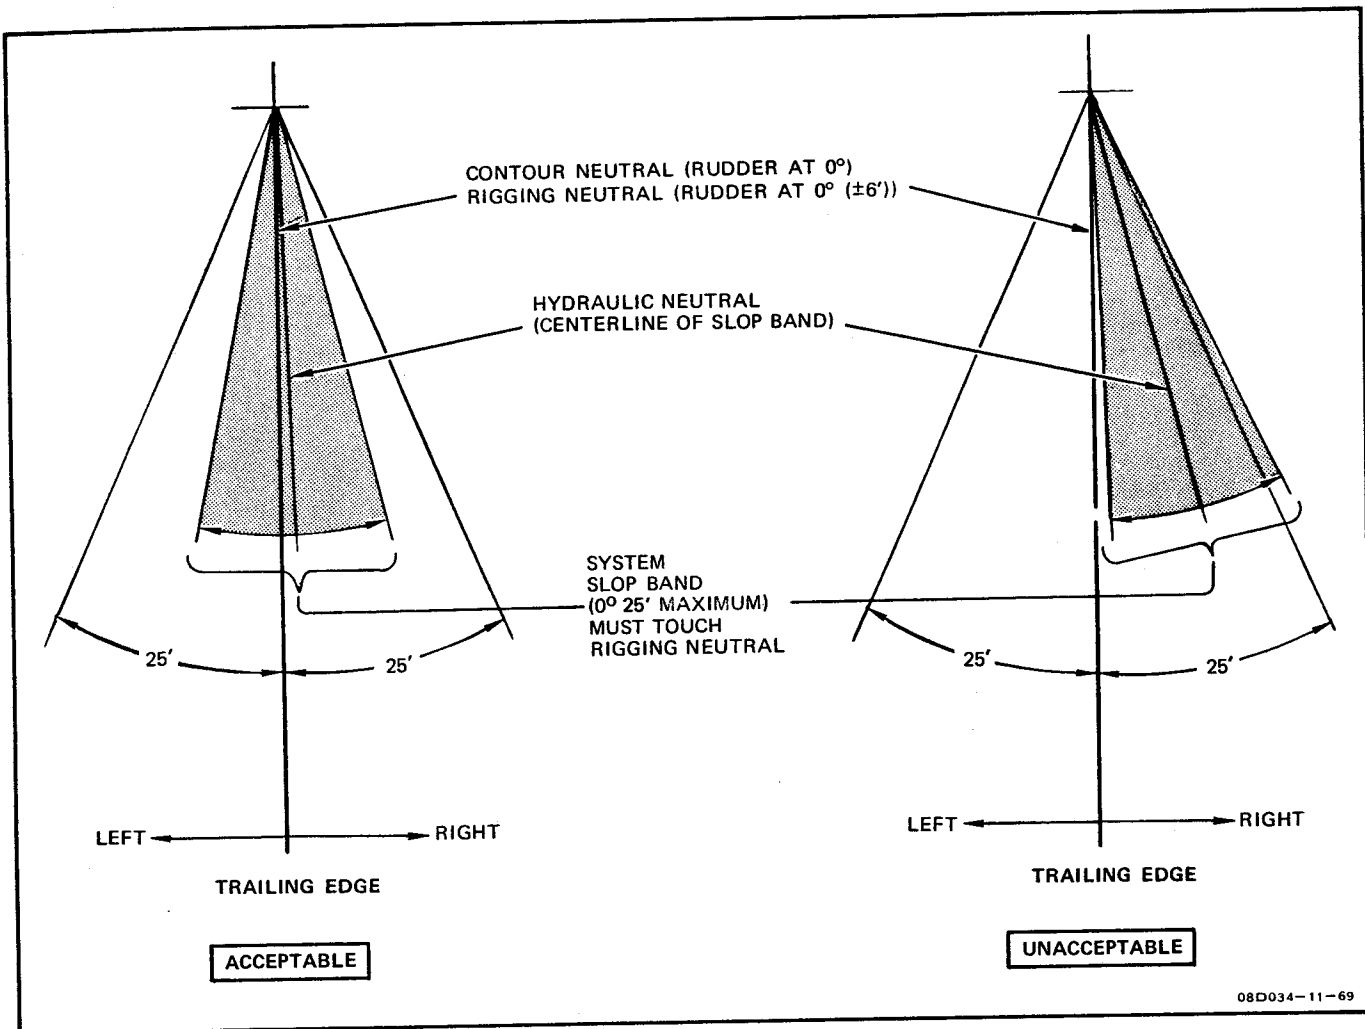

Figure 5-4. Rudder Surface Centering Slop Band Limits
q. Release rudder pedals and check that rudder returns to hydraulic neutral position (figure 5-4). {4, 5}
(See figures 5-4 and 5-6.)
a. Remove protective screws (CVC128-10R6) from fairing (1) below rudder (2).
b. Install protractor base (3) on fairing below rudder with thumbscrews (4).
d. Install indicator (5) on rudder with thumbscrews (6).
e. Install protractor scale (7) on protractor base with thumbscrews (8).
f. Align rudder in contour neutral by aligning the top of the rudder with the trailing edge of the upper portion of the vertical fin (figure 5-4).
h. Check for 0.080-inch clearance between protractor scale and indicator with gage (9) through full travel of rudder.